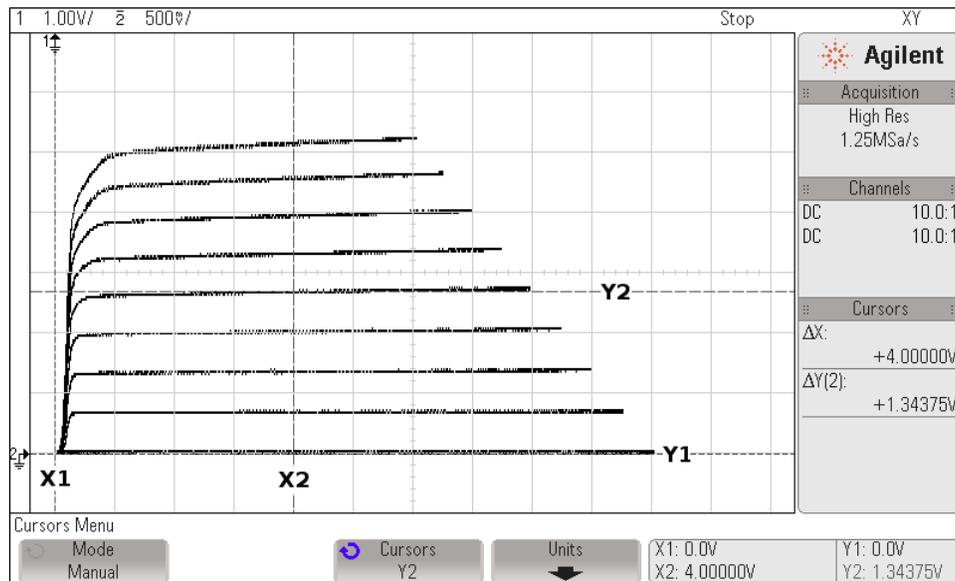

Figure 4. Cursor Measurements.
15. Press the Cursors key to turn on the cursors and position them as follows: $X1 = 0$, $X2 = 4V$, $Y1 = 0$, $Y2$ on the $I_b = 80\mu A$ line where $X2$ crossed it. Record the $Y2$ voltage, which is the voltage across the 100Ω resistor. Note that the $X1$, $X2$, $Y1$ and $Y2$ text will not appear on the screen. Save this display to your USB drive (or take a picture) and include it in your lab report. In the example in Figure 4, the collector current and β_{dc} are: